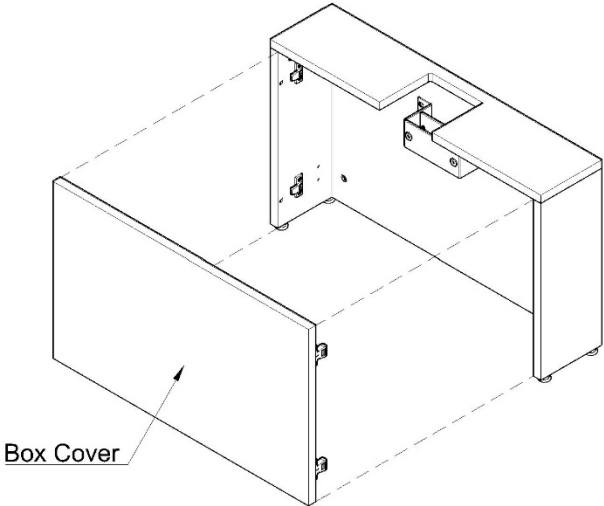

Figure 4
- 6. Remove the Leg Box Cover as shown in Figure 4.